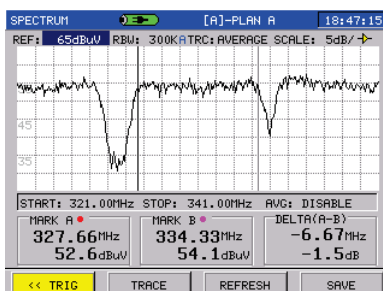

Figure 3-3-8
**HOLD(F1):** Press HOLD soft key, you can hold the spectrum to observe, and the scan will be stopped at current spectrum graph. Then you can press  (TRIG) to resume scanning again as Figure 3-3-8.